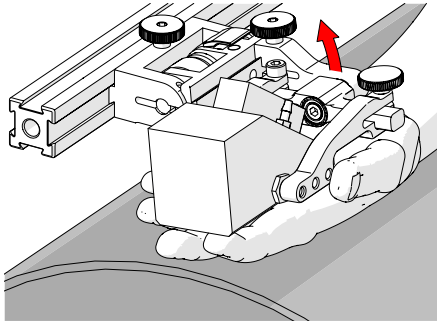

Fig. 69 - Lift to latched position
1. Ensure the probe holder is in the latched, upper position (Fig. 69). If the probe holder is already latched, it will only move within the slip joint adjustment range and have no spring tension.
1. Ensure the probe holder is in the upright latched position (Fig. 69).